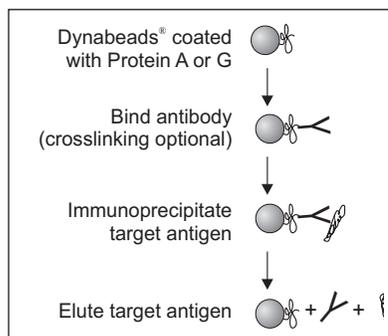

Figure 1: Principle of immunoprecipitation of antigen using Exosome Immunoprecipitation (Protein A) or Exosome Immunoprecipitation (Protein G).
Exosome Immunoprecipitation (Protein A) and Exosome Immunoprecipitation (Protein G) are designed for immunoprecipitation of proteins, protein complexes, protein-nucleic acid complexes, and other exosome-related antigens. Antibody (Ab) is added to the protein A- or protein G-coated Dynabeads® suspension. During a short incubation, the Ab binds to the beads via their fragment crystallizable (Fc) region. The Ab-coated beads are separated from the non-bound antibodies using a magnet, and the beads are now ready to be used for immunoprecipitation (IP) (fig. 1).